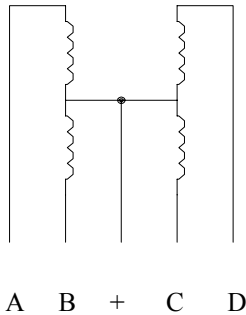
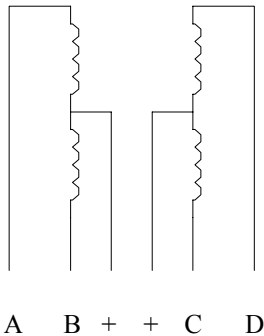

Fig 1. Five-wire stepper motor
Fig 2. Six-wire stepper motor
2. Unipolar motors. These have two center-tapped coils which are treated as four coils. These motors can have **five, six or eight wires**. Five-wire motors have the two center-taps commoned internally and brought out as one wire (Fig 1). Six-wire motors bring out each center-tap separately. The two center-taps need to be commoned externally (Fig 2). Eight-wire motors bring out both ends of each coil. The four “center-taps” are joined externally to form one wire. In each case the center-tap(s) are connected to a positive motor power supply. Unipolar motors may be connect as bipolar ones by not using the ‘+’ wires.